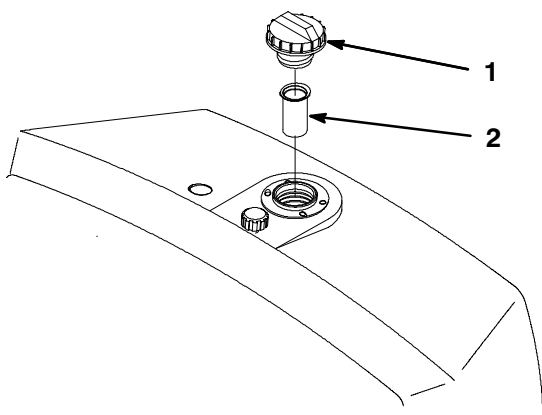

Figure 20
2. Remove the cap from the reservoir and check the level of fluid. The fluid should be up to the bottom of the screen in the filler neck (Fig. 20).